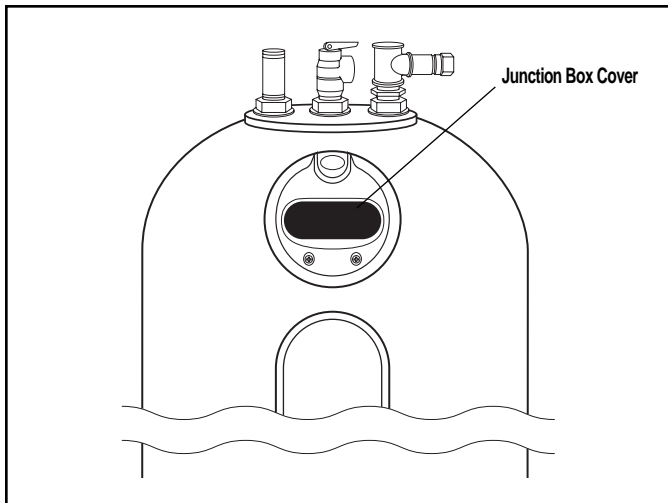

Figure 4 — Water heater junction box location.
- ELECTRICAL CONNECTIONS** — The water heater is completely wired to the junction box inside jacket at top front of water heater (see Figure 4). An opening for a 1/2" or 3/4" electrical fitting is provided for field wiring connections. A separate branch circuit with copper conductors, overcurrent protective device and suitable disconnecting means must be provided by a